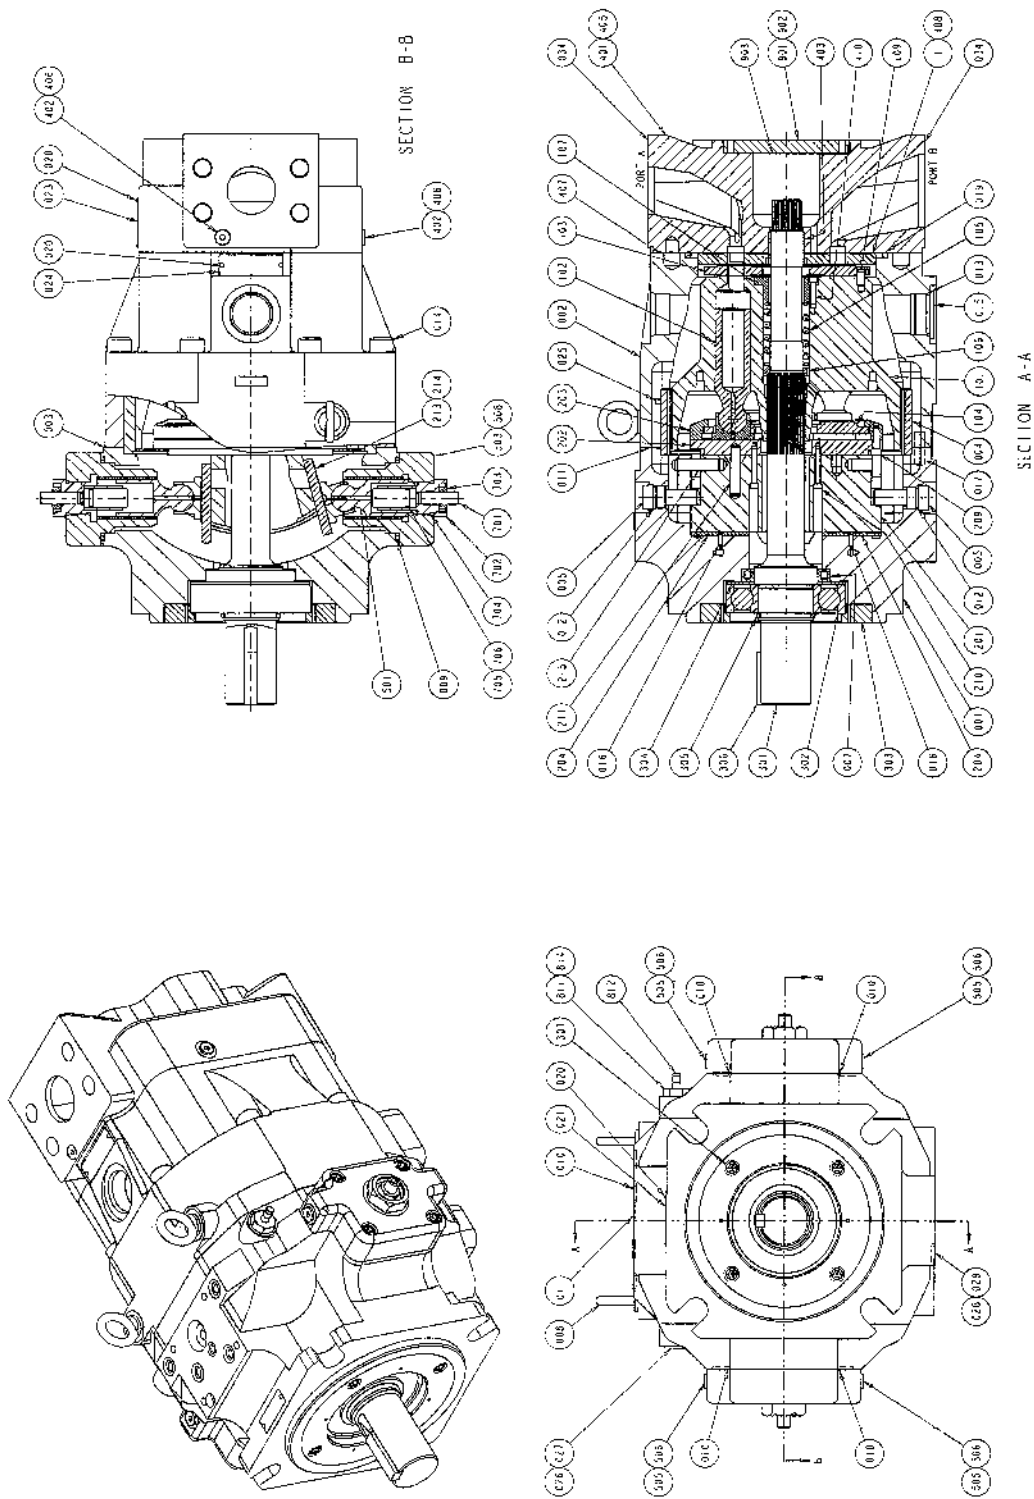

Figure 6. Cross-Section Drawing (517925) sheet 1.
Refer to figures 6 and 7. It will be advantageous to tag similar parts (particularly screws, plugs and o-rings) during disassembly to be certain they don't become confused with similar parts and to assure they will be returned to original location. Do not remove (locator) roll pins unless they are deformed or otherwise in need of replacement.
Refer to figures 6 and 7. Depending upon what part or parts are to be inspected, it may not be necessary to completely take apart all assemblies. If only the port plate (1) is to be inspected, it is possible to remove valve plate group (J) only. The driveshaft group (E) can be removed, without disassembling the rest of the pump, to access front driveshaft bearing (302) and/or shaft seal (007).
Refer to figures 6 and 7. The procedure for assembling the pump in basically the reverse order of disassembly. During assembly, install new gaskets, seals and o-rings. Apply a thin film of CLEAN grease or hydraulic fluid to sealing components to ease assembly. If a new rotating group is used, lubricate thoroughly with CLEAN hydraulic fluid. Apply fluid generously to all wear surfaces.